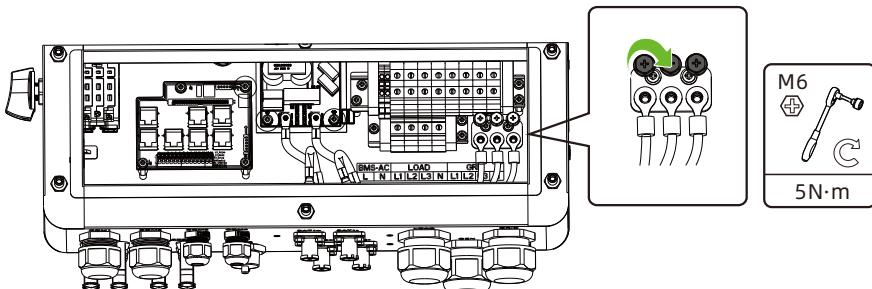

Fig 6.10 Grounding Schematic
- 2) Connect a ground cable to the copper grounding bar. Fig 6.10 shows the position of the grounding bar ;